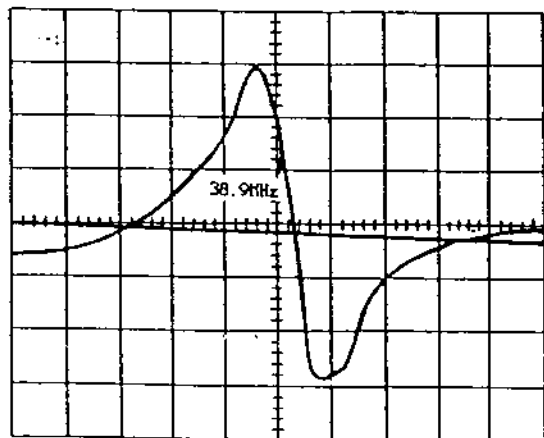

Fig. 62
- Connect output of the Sweep-Marker Generator to Tuner Pack TP and adjust L6005 so that output waveform for TP6002 is as shown in Fig. 62.